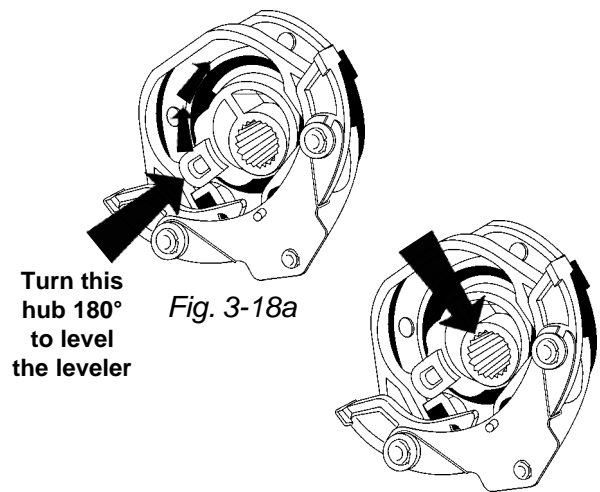

Fig. 3-18a
4. Level the leveler before it is installed. (Fig. 3-18a)